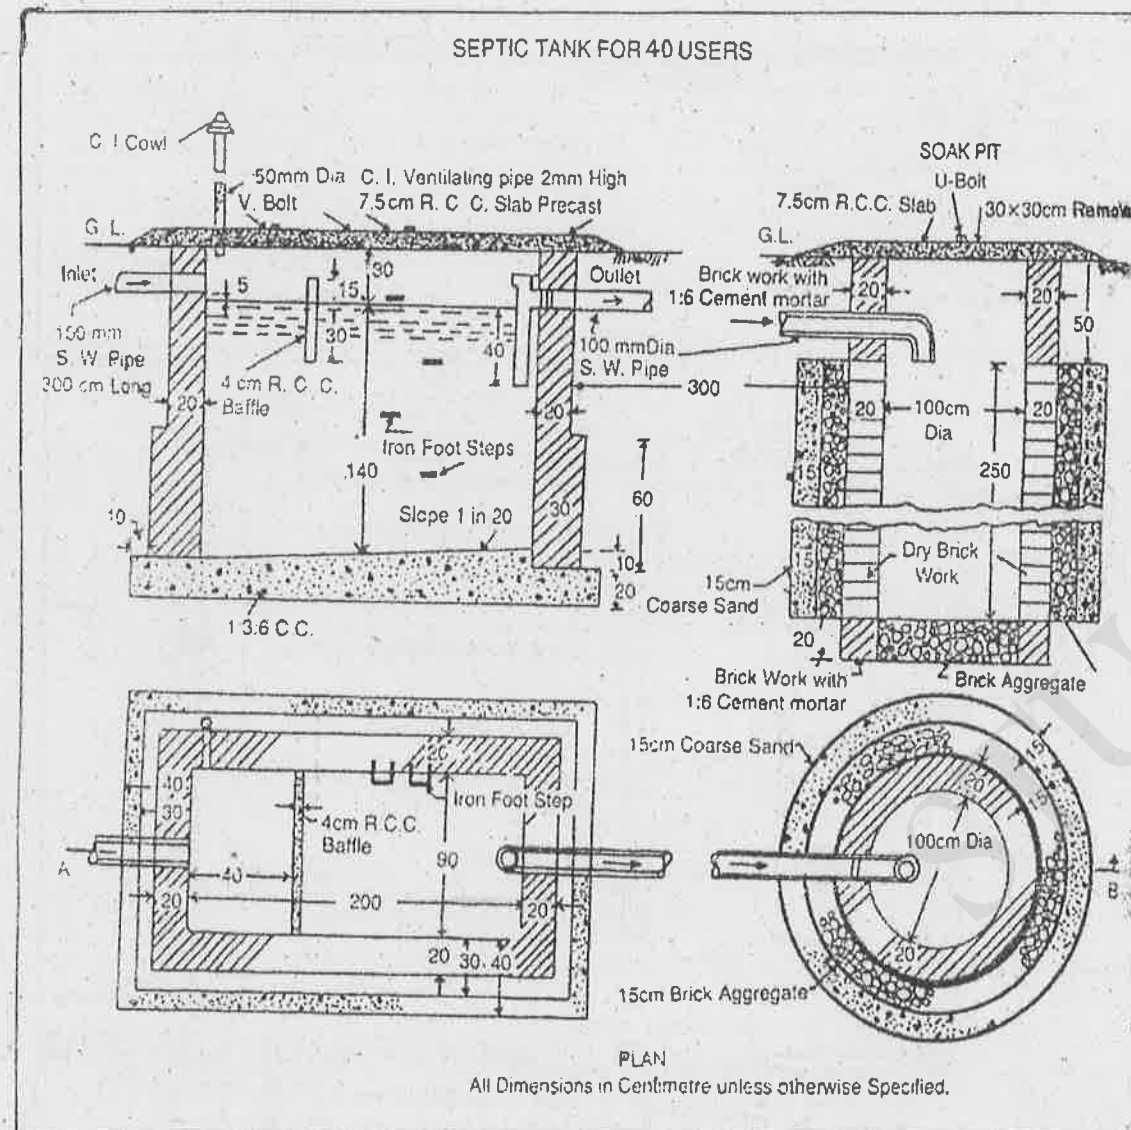

Fig. 12(a)
- (b) Prepare a detailed estimate of a slab culvert of 1.50 meter span and 4.00 meter roadway from the given drawing Fig. 12(b). The general specifications are as follows.
- (i) Earth work excavation. (2)
- (ii) Cement concrete 1:3:6 in foundation with stone ballast. (2)
- (iii) 1st class brick work in 1:4 cement mortar – Abutments. (4)
- (iv) R.C.C. work 1:2:4 in slab excluding steel and its bending but including centering shuttering and binding steel. (4)
- (v) Cement pointing 1:2 in walls. (4)